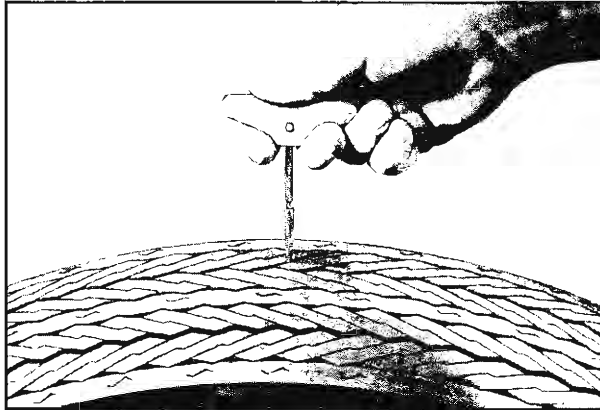

Fig. 18—Cleaning Puncture with Cleaning Needle
4. Flip the screw-type cleaning needle of reaming tool into position and insert into puncture (fig. 18). Apply light pressure only and turn clockwise into puncture channel right down to the handle of the tool, carefully following the direction of the puncture. Retract tool by continuing to turn clockwise but with slight pulling action. Repeat this operation twice. Clean rubber particles, if any, from round cutter of needle, after each retraction. Make sure the small circular cutout